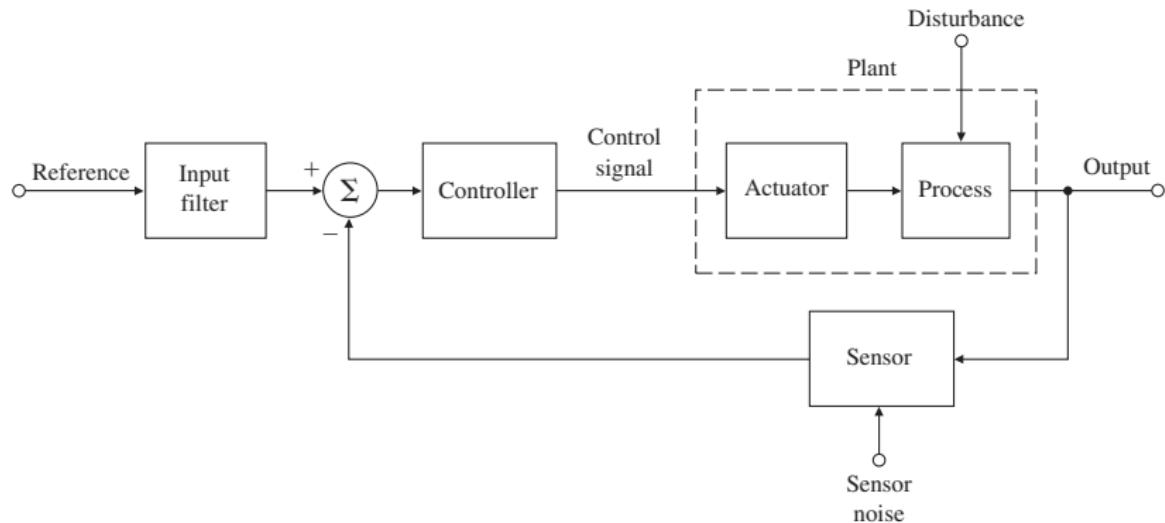

Figure 1.3 : Block diagram of a feedback control system.
- ▶ Figure 1.3 shows the generic components of a simple feedback control system.
- ▶ Identify the signals and systems in Figure 1.3.
1. Describe the block diagram of a person playing a video game. Suppose the input device is a joystick and the game is being played on a desktop computer. Use Figure 1.3 as a model of the block diagram.